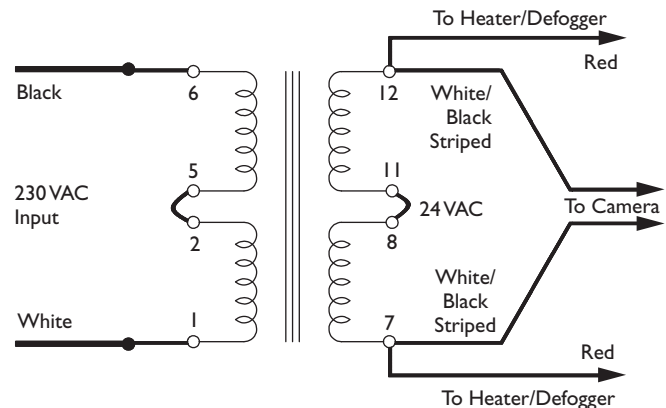

Figure 6 HS9384-5HP Transformer Wired for 24 Volt Camera
1. Installing a 24 volt camera into the HS9384-5HP housing utilizes the internal transformer for camera power (see **Figure 6**).